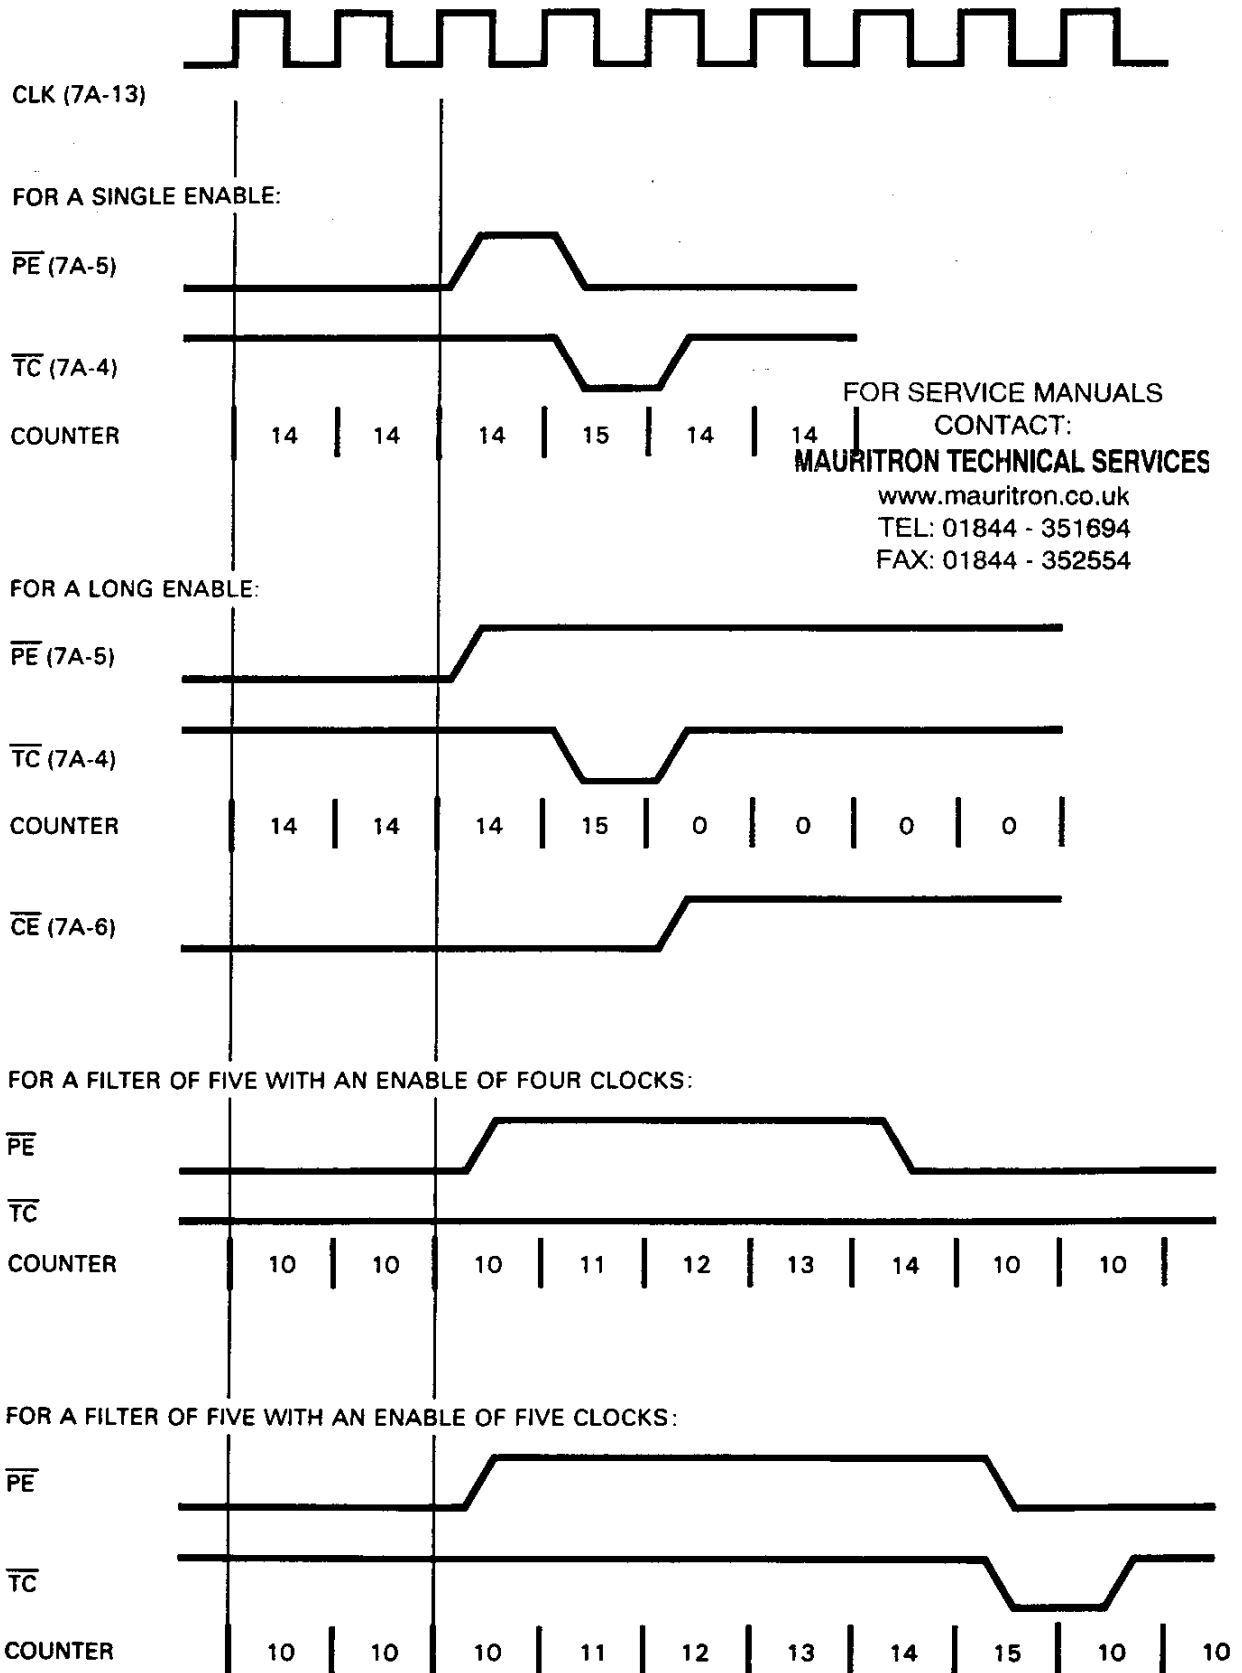

Figure 4.11 Filter Operation Examples
3. See Figure 4.11 for some examples of the filter operation.